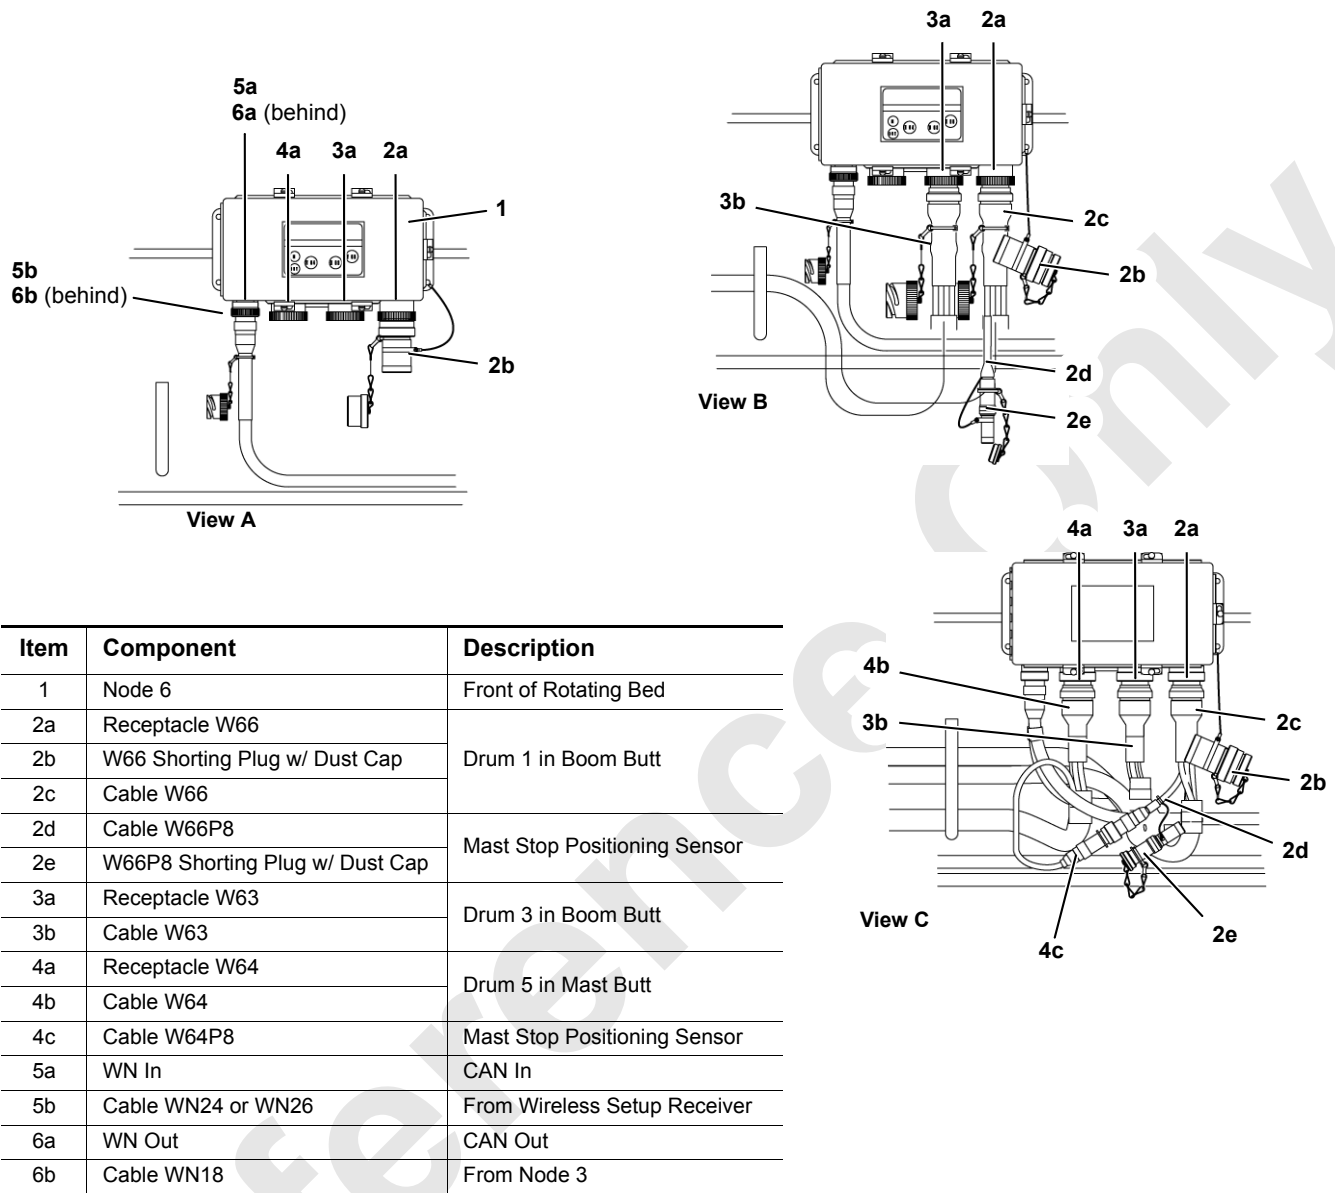

FIGURE 4-25
- a. Remove terminator plug (6, View E) from electric cable (3) on the crane.
- b. Connect electric cable (8) from boom butt to cable (3).
- NOTE:** For Node-6 electrical connections with Mast Stop Limit Switch, reference Figure 4-25 for cranes with software version M002066 or newer.
- a. Remove pins (3, View A) and rotate links (4) to working position (View B).
See Figure 4-25 for the following procedure.